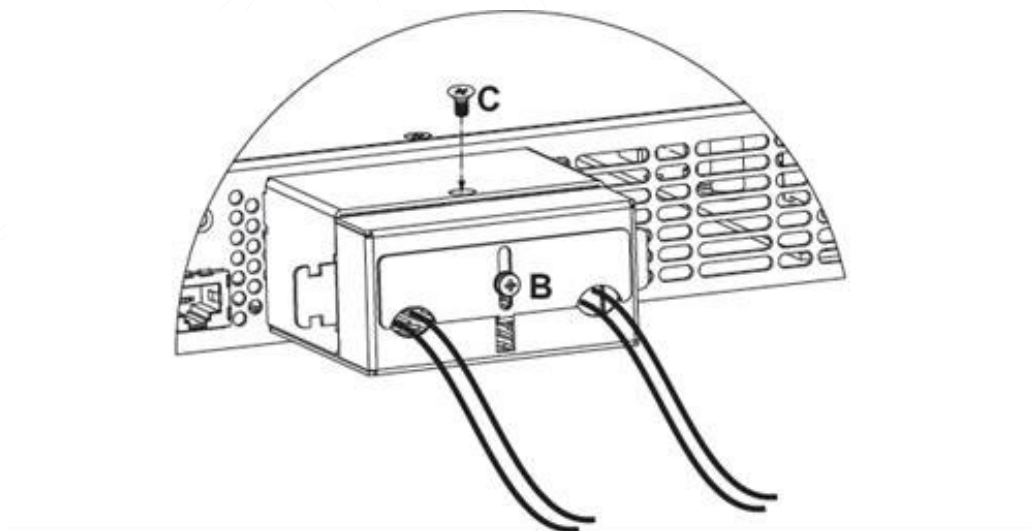

Figure 3-9: Shield Assembly
7. Assemble the enclosure bottom cover to its place, as shown in Figure 3-9, using the screw marked "C", (Tightening torque 4.8-5.3 Lb-inch (0.5 – 0.6Nm)).